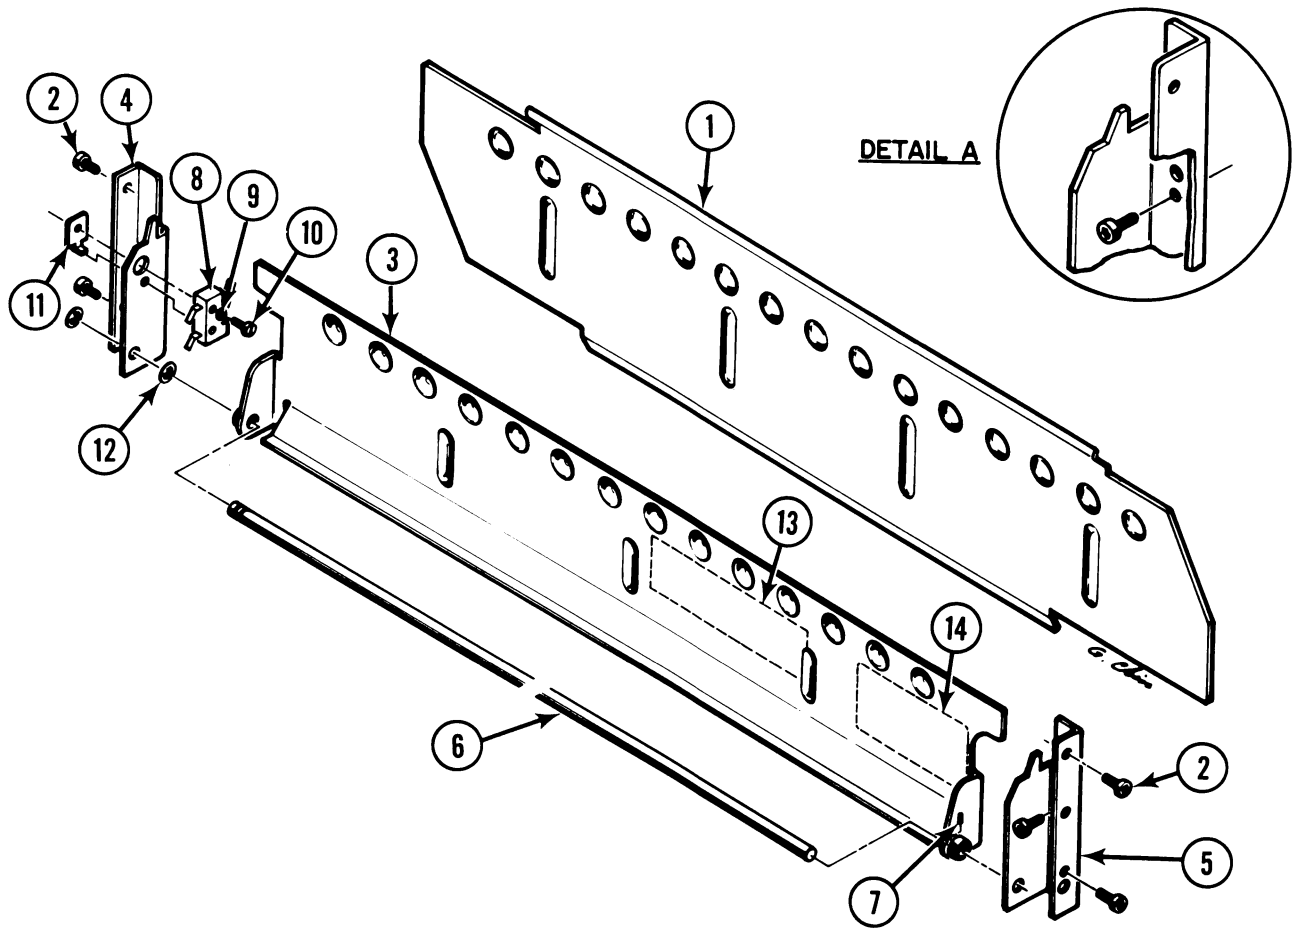
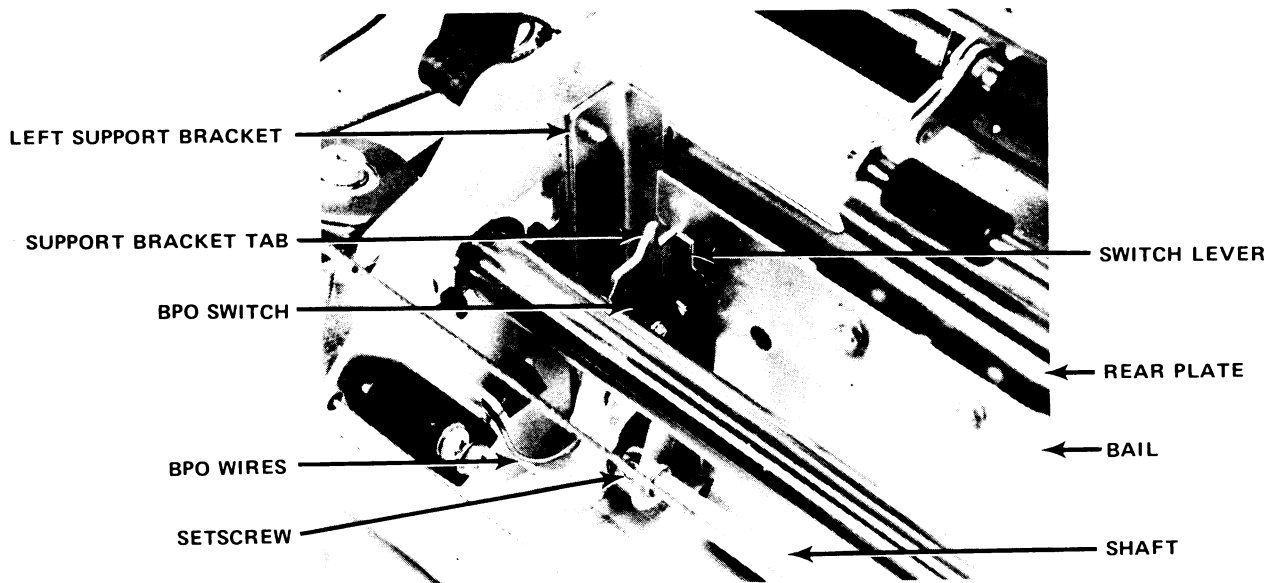
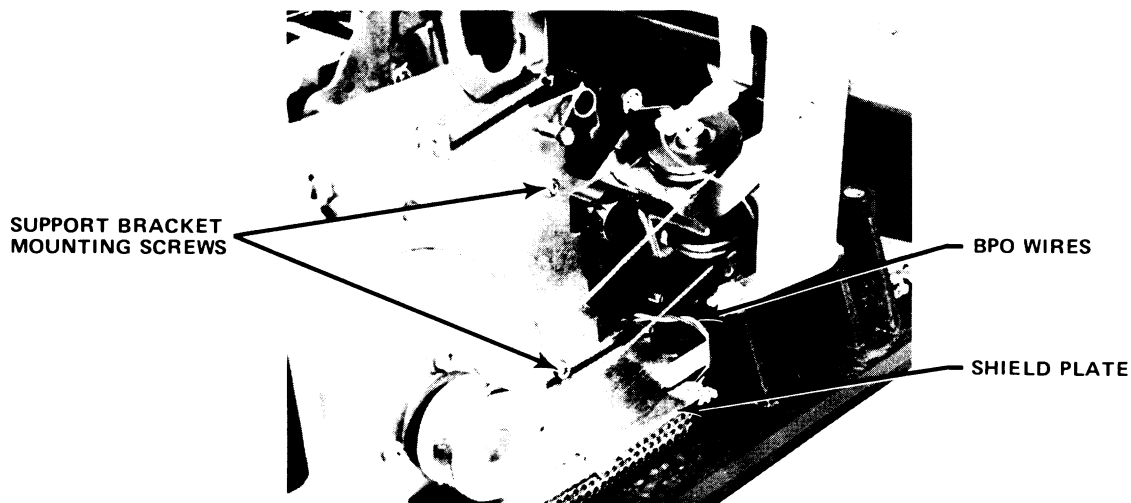

Figure 4-23. BOTTOM FEED KIT
Figure 4-24. BOTTOM FEED ASSEMBLY
Figure 4-25. ROUTING OF THE BPO SWITCH WIRES
- 1) Check the contents of the Bottom Feed Kit to see that none of the parts are missing (see Figure 4-23 and associated parts list). If any parts are missing, refer to the Model 630 Parts Catalog (Publication No. 90444-XX) for the proper part numbers to order.
- 9) Remove the ribbon cable shield plate located along the left side of the unit (see Fig. 4-25). (Later units do not have this shield plate.)
Refer to Figures 4-23 and 4-24 during the following steps.
- 11) Lower the paper chute rear plate (Item 1) into position flat against the printer frame as shown in Figure 4-24. The row of bumps on the plate must be at the top and projecting forward away from the printer frame. The plate rests on the printer frame on either side of the bottom slot. (Note — Installation will be easier with the carriage centered.)
- 12) Thread the two setscrews (7) part way into the collars on the paper chute bail (3).
- 13) Assemble the Bottom Paper Out (BPO) switch (8) to the left paper chute support bracket (4) using the new switch, one 2-56 x .500" hex washer head screw, one #2 lockwasher and a nut plate (do not tighten).
- 14) Thread a 4-40 x .250" Torx screw into the rear-facing hole in both the left and right support brackets, as shown in Detail "A" of Figure 4-23. After the screw has formed threads in the hole, back it out to the point where the screw tip is flush with the surface of the bracket.
- 15) Assemble the bottom paper chute bail (3) to the bottom paper chute shaft (6) and to the left and right support brackets (4 and 5), using the two retaining rings (12) at the left end of the shaft.
- 17) Center the bail (3) for equal contact against the left and right support bracket tabs (Fig. 4-24), and then tighten the two setscrews (7) to secure the bail to the paper chute shaft.
- 20) Reinstall the shield plate over the cable trough, with the paper out switch wires exiting near the same point as the cover open switch wires (Fig. 4-25).
- 21) Push the left and right support brackets against the rear plate, and fasten the brackets to the printer frame with two 4-40 x 1/4" Torx drive pan head screws (2) on each bracket.
- 22) Thread the rear-pointing screw (Detail "A", Fig. 4-23) into each support bracket so that the tip of the screw pushes the rear plate (1) snugly against the printer frame.
- 25) Attach the two warning labels (English and German) onto the front surface of the paper chute bail in the positions shown in Figure 4-23.